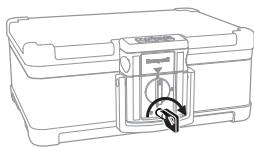

Figure 4.2
2. Turn the key clockwise to the right $\frac{1}{4}$ turn (Figure 4.2).